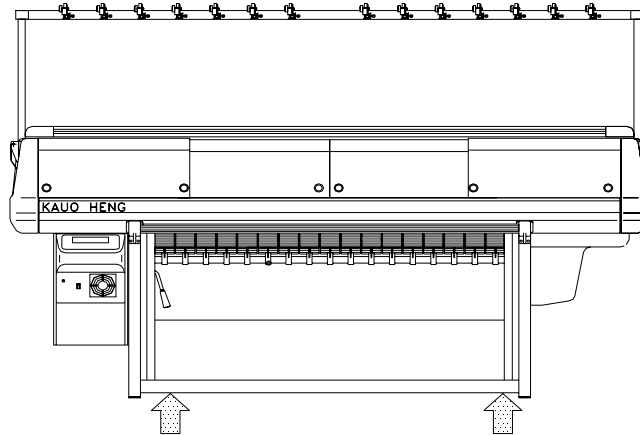

Fig.1-1 Correct position of jacking the machine
- ② Fig.1-1 illustrates the correct position of jacking while moving the machine. It is very important when moving the machine. The yarn carrier rail shall never be used to push the machine since it will distort the rail.